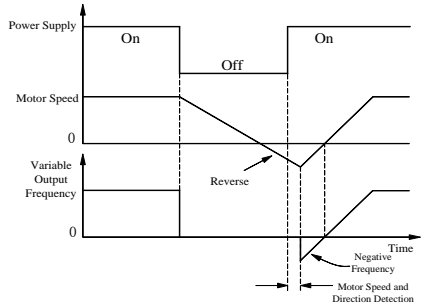

Figure7-5 Speed Search Start
**F0-19=1** Speed search start: Before inverter starts, the motor may be rotating. Detecting motor speed and direction when inverter starts running, the speed and running direction of motor can be directly searched base on the detection result. Smooth start can be applied to the motor which is rotating. The process of speed search is as shown in Figure 7-5.